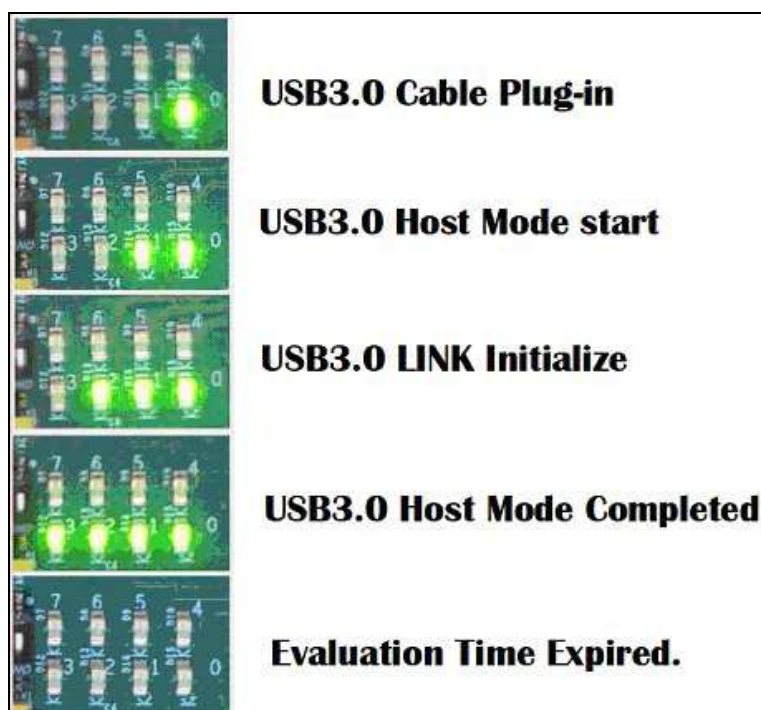

Figure 8: USB3.0 host operation LED status on Intel board
- After sof-file download finish and JTAG UART operation start, check USER_LED0-3 status near by HSMC connector on Intel board. See Table 1 for LED definition. Note that LED0 blinks and other LEDs are OFF when USB cable is unplugged. When USB cable is connected again, LED will change its state as shown in Figure 8.